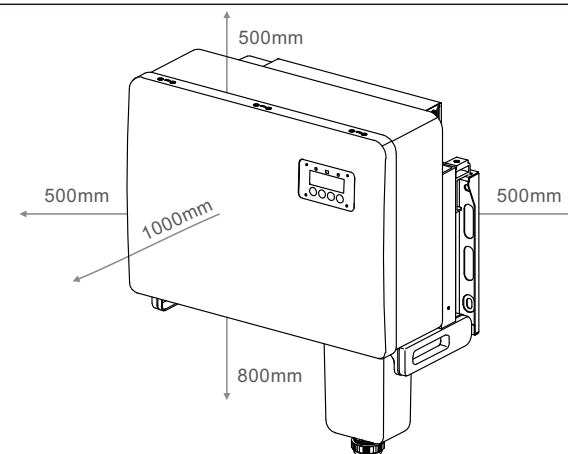

Figure 3.1 Distances required between PV Inverters
- If multiple PV Inverters are installed on site, a minimum clearance of 500mm should be kept between each PV Inverter and all other mounted equipment. The bottom of the PV Inverter should be at least 500mm above of the ground or floor (see Figure 3.1).